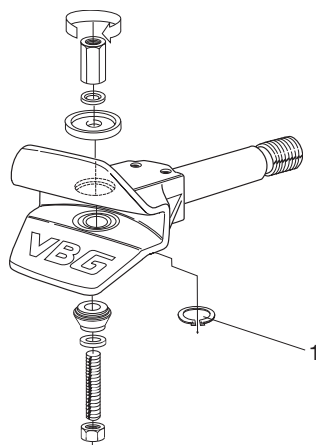

Figure 9
- When changing the Coupling Jaw Bushings, use the VBG Service Tools, Part No 39-004000. The bushings have to be pulled out upwards from the Coupling Jaw. Clean, check and lubricate the hole in the coupling jaw. Squeeze in the new bushings downwards. Remount the lock washer (1). See figure 9.